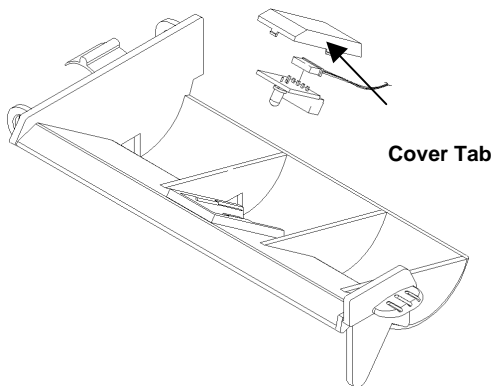

Figure 6-5. Bi-Cell Emitter Removal
1. Using fingers, release emitter cover from the emitter housing. Slide the emitter out of the housing. See Figure 6-5.